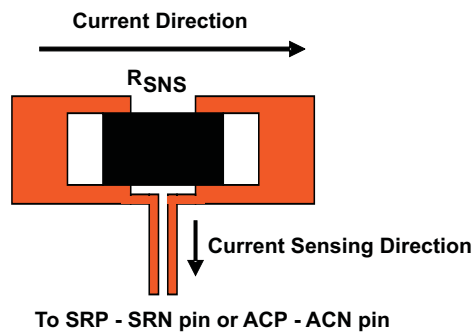

Figure 27. Sensing Resistor PCB Layout
4. The charging-current sensing resistor should be placed right next to the inductor output. Route the sense leads connected across the sensing resistor back to the IC in same layer, close to each other (minimize loop area) and do not route the sense leads through a high-current path (see Figure 27 for Kelvin connection for best current accuracy). Place the decoupling capacitor on these traces next to the IC.